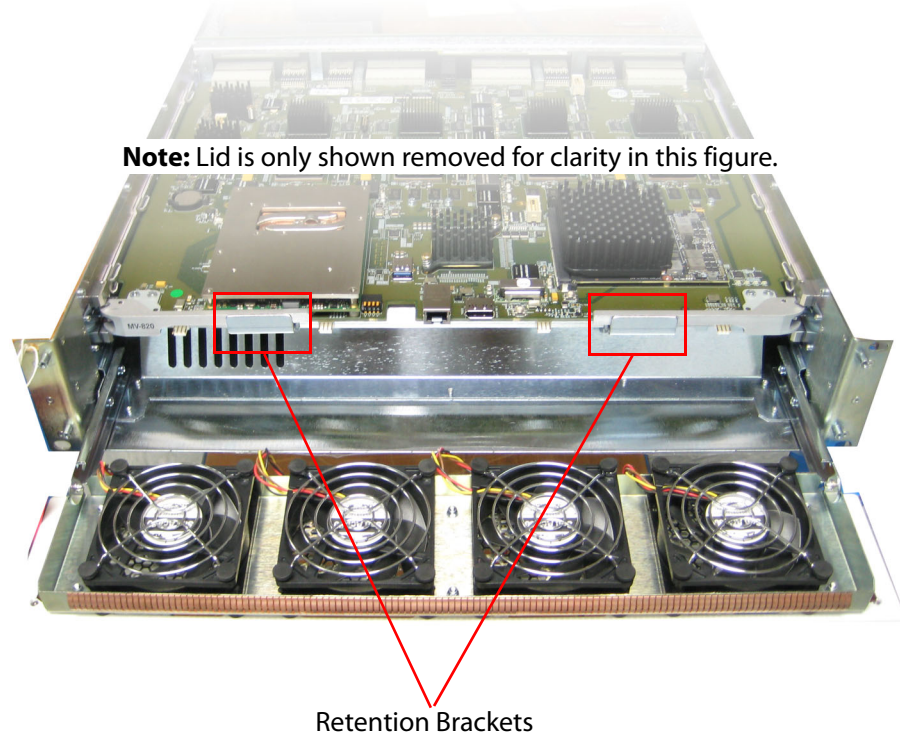

Fig. 11-8: Retention Bracket Locations
- 4 Unscrew the two captive screws securing each of the Retention Brackets. Remove the Retention Brackets and keep them aside. See Figure 11-8.